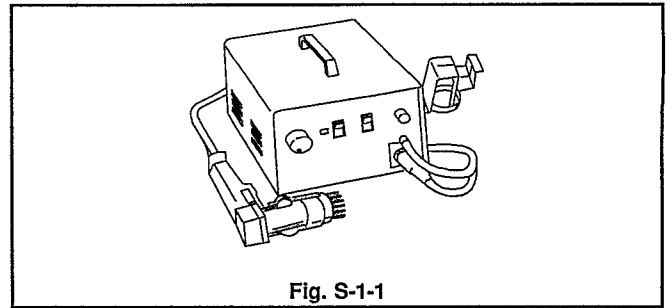

Fig. S-1-1
- (1) Prepare the HOT-AIR FLAT PACK-IC DESOLDERING MACHINE, then apply hot air to the Flat Pack-IC (about 5~6 seconds) (Fig. S-1-1).